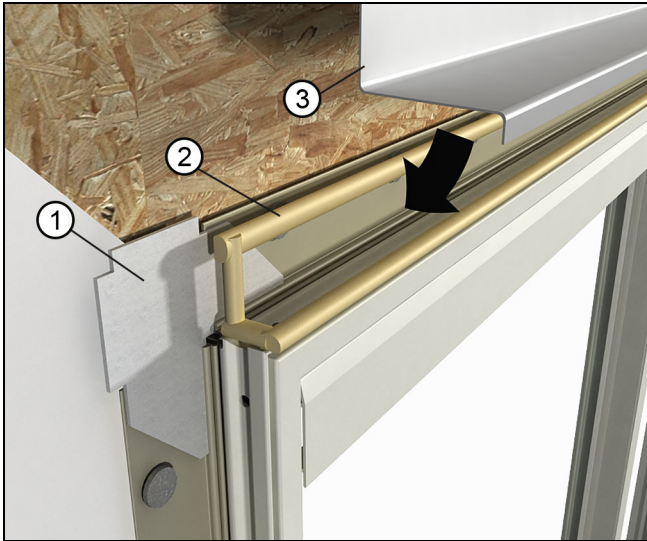

Figure 35
2. Required on wood units/optional on clad units: Install a rigid head flash at the head jamb. Be sure to apply a bead of sealant along the back sides of both vertical and horizontal surfaces of the cap that come in contact with the door, door casing, and/or sheathing. See Figure 35.